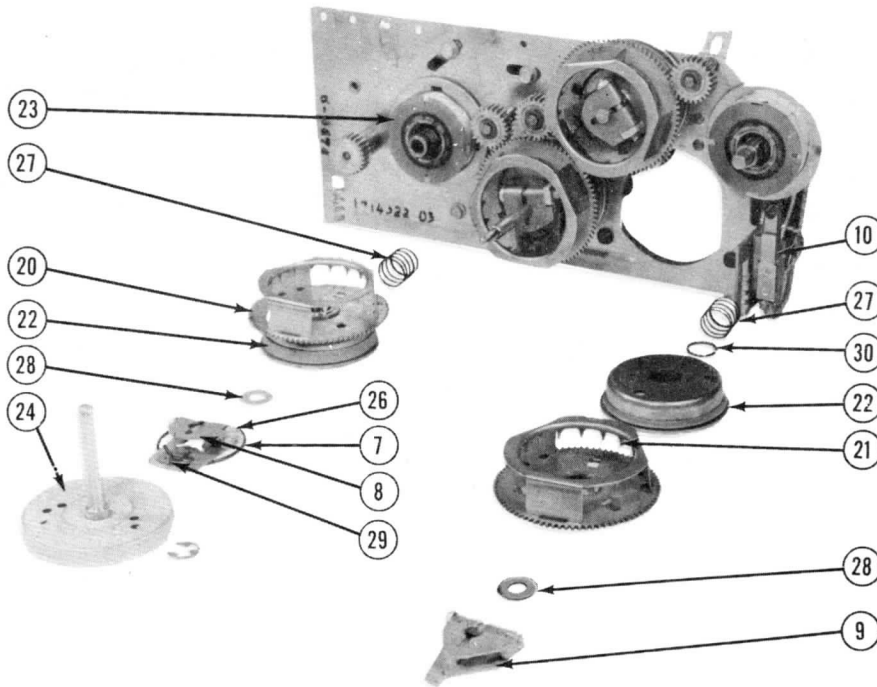

FIGURE 3.
Moving one of the self-centering switches on the Control Box to start the motor will also energize an associated solenoid coil (23). The armature (22) is then attracted by magnetic force of the solenoid and is pulled inward compressing the return spring (27) (See Fig. 3). The armature (22) is secured to the shaft of the clutch and gear assembly
(20) by the retaining washer (30). Therefore, the clutch and gear assembly moves with the armature and, as a result, a tooth of the clutch engages the toggle (29) of the safety driver (8), which in turn, rotates the selected control. The toggle of the safety driver assembly is held in position by the toggle spring (7) which maintains enough pressure to make the driver turn the control in normal operation; however, when the control is turned to its maximum rotation, clockwise or counterclockwise, the spring tension is overcome, allowing the toggle (29) to slip off the clutch tooth with an accompanying clicking noise until the voltage is removed from the solenoid (23), or until the control is made to turn in the opposite direction. This safety feature prevents the gears from locking. An ordinary driver (9), instead of a safety driver (8), is used on the channel selector control since this control can be rotated continuously.